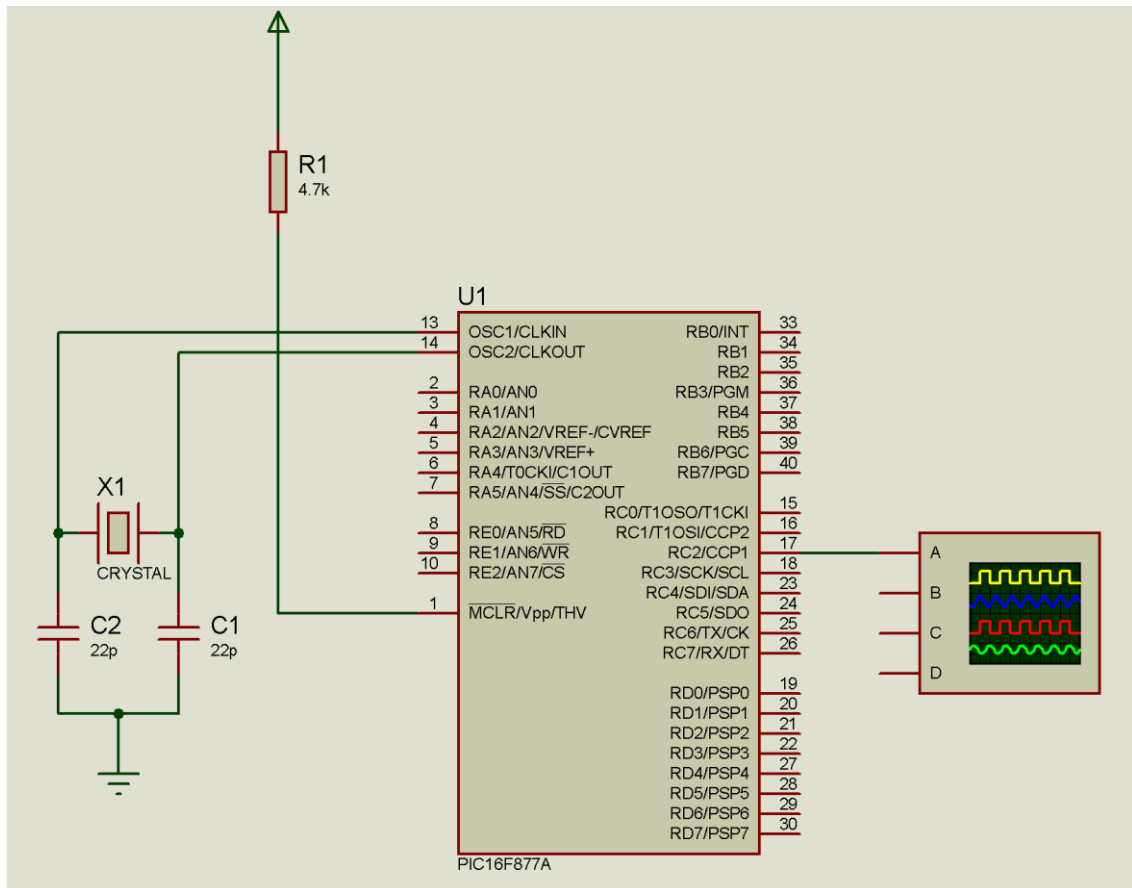

Figure 10: PWM mode connections
23. Implement circuit provided in Figure 10.